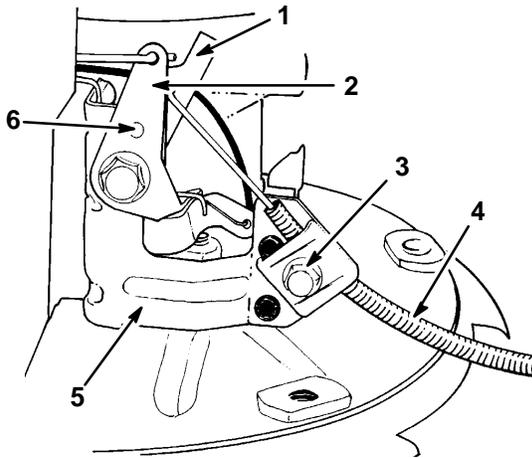

Figure 17
- Loosen cable clamp screw until throttle cable slides (Fig. 17).
- Check to see if holes in throttle bracket and choke lever are aligned (Fig. 17). If not, follow adjustment procedure in step 5.
- ADJUSTMENT**—A small diameter pin may be inserted into aligned holes to hold adjustment. Push throttle cable until throttle lever contacts choke lever (Fig. 17). Tighten cable clamp screw. Remove pin if used.